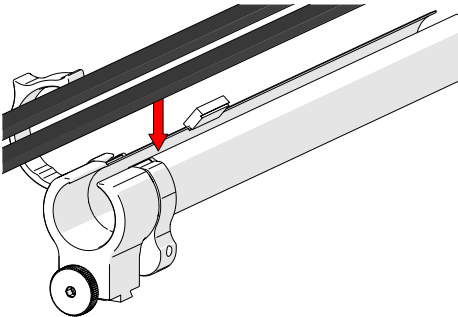

Fig. 91 - Insert cables and hoses
1. Open the zipper of the cable management. Begin at the tube's dovetail mount and place the cabling in the tube (Fig. 91).